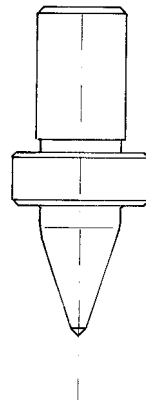

fig. 7c
6.3 Short Special Flowdrill (fig. 7c)